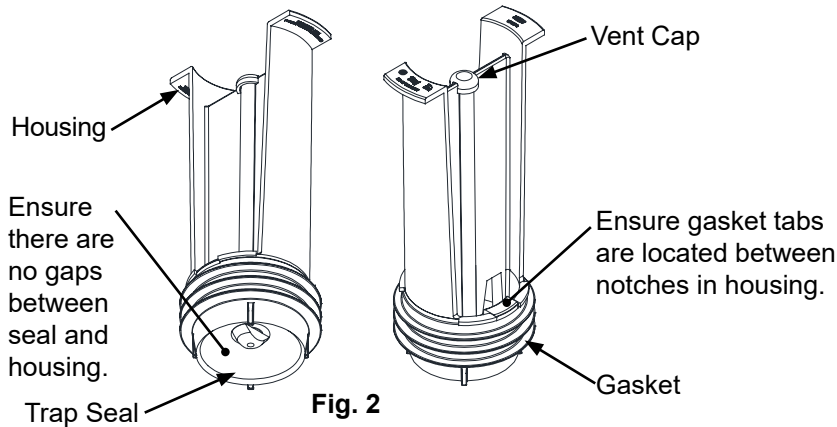

Fig. 2
2. Ensure ZPTSP is properly assembled. See Fig. 2.
5. Verify trap seal is fully seated after installation, ensuring no wrinkles. See Fig. 2 for proper orientation.
CAUTION: When removing ZPTSP for maintenance, pull the device out slowly to prevent the gasket from falling into the outlet. Ensure not to remove the device by the vent cap. See Fig. 2.